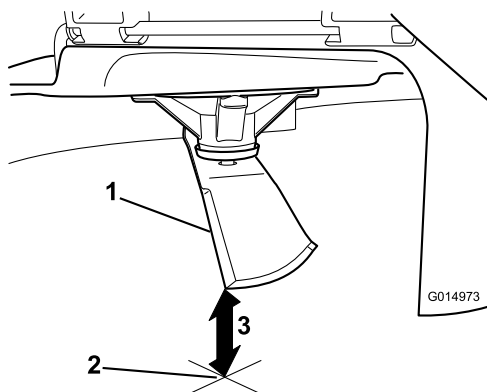

Figure 68
5. Measure from the tip of the blade to the flat surface (Figure 68).